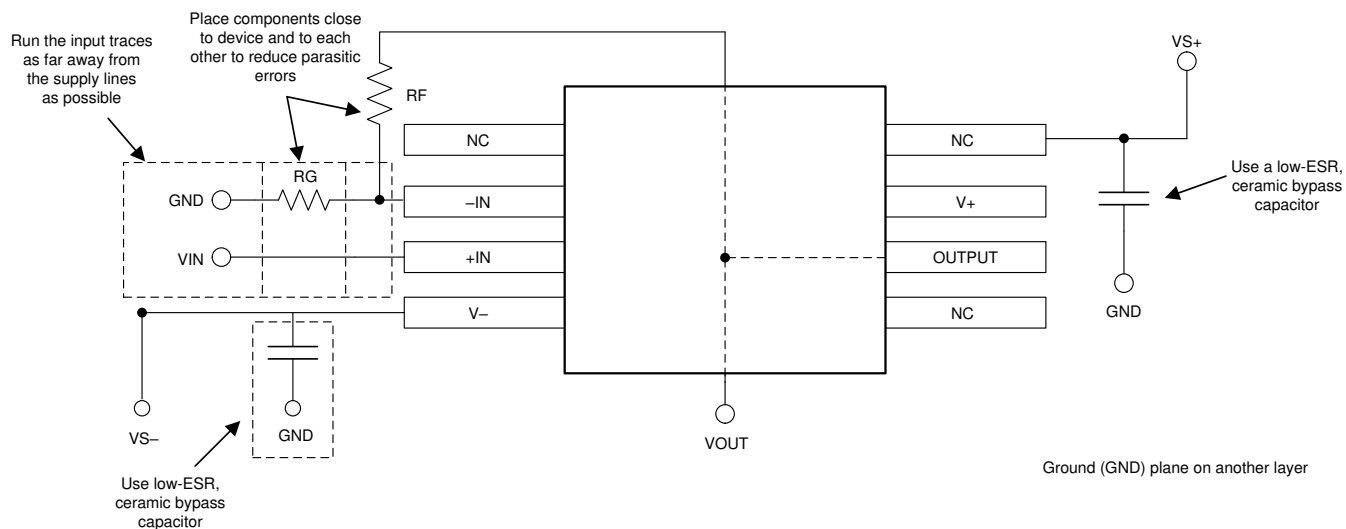

图 8-4. Operational Amplifier Board Layout for Noninverting Configuration
- Place the external components as close to the device as possible. As illustrated in 图 8-4, keeping RF and RG close to the inverting input minimizes parasitic capacitance.